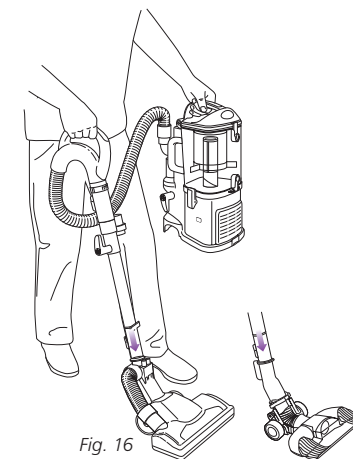

Fig. 16
- 2 Attach either floor nozzle onto the end of the extension wand. (Fig. 16)